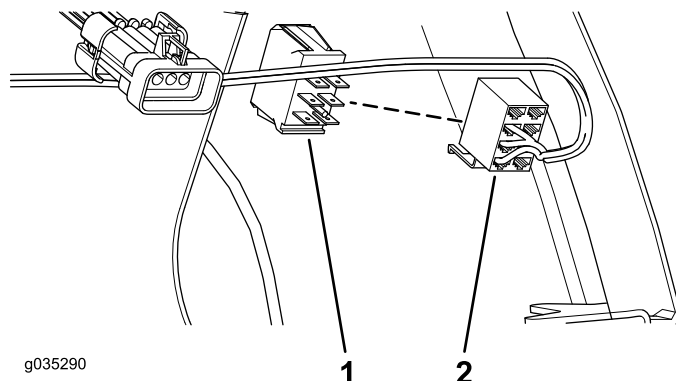

Figure 9
3. Connect the female connector attached to the wire harness to the rocker-switch blades (Figure 9).